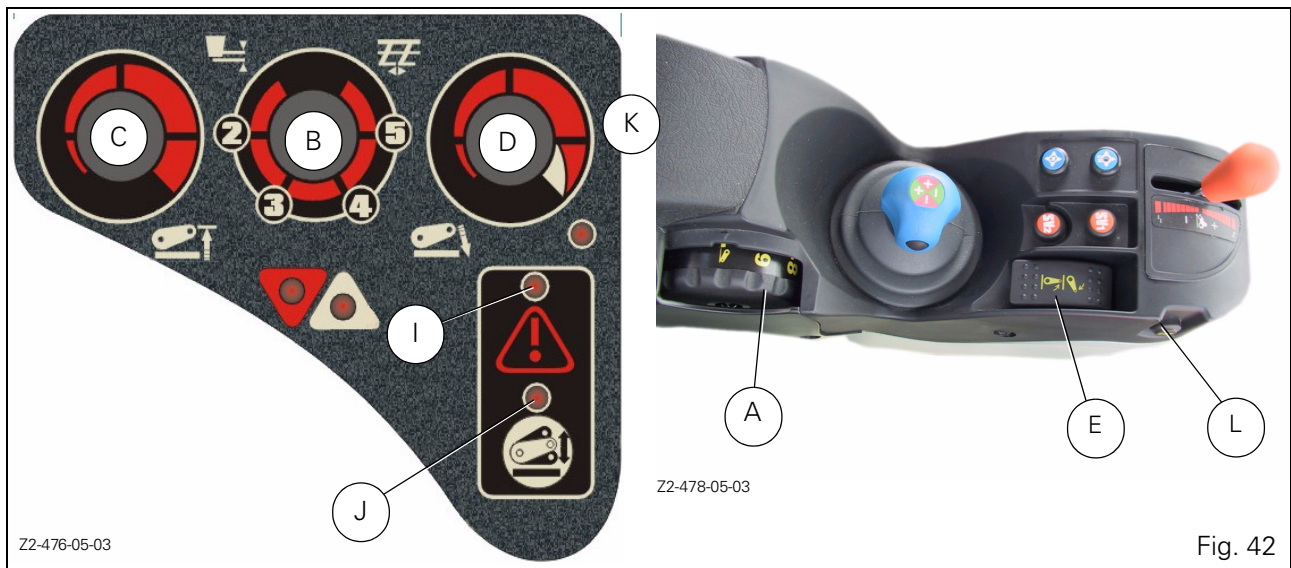

Fig. 42
- ((K) and (J) light up for 0.5 second approximately.
- ((I) stays on until the console is activated.
- Move the function selector knob (B Fig. 42) clockwise to minimum control position.
- Move the Lift / Lower selector switch (E) to the lift position.
- Adjust the linkage height in turning the control knob (A).
- The Lift indicator light (H) comes on.